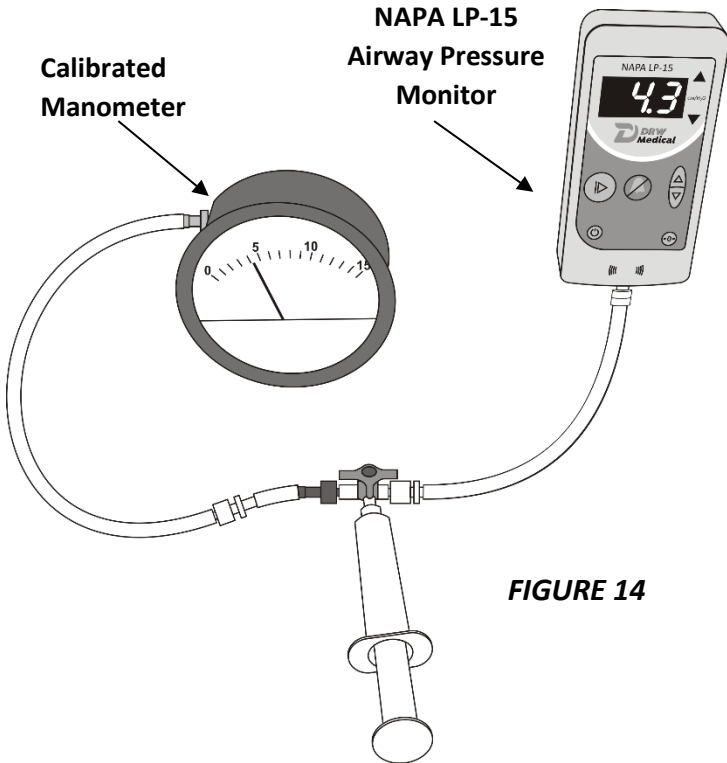

FIGURE 14
8.3 Monitor Pressure Accuracy Check (Biomedical Engineer User) FIGURE 14